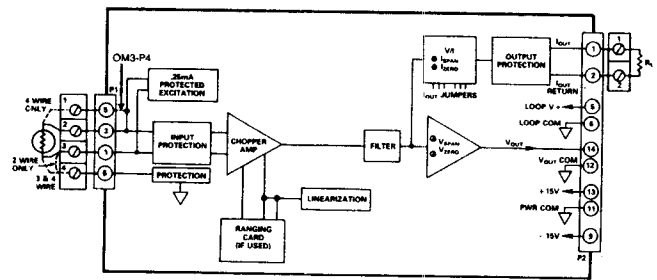

Figure 2.1.4.1 OM3-P3 and OM3-P4 Functional Block Diagram
Figure 2.1.4.1 shows a functional diagram for models OM3-P3 and OM3-P4. A sensor excitation current of .25mA is provided by each module. Input protection of up to 130V for the input and excitation circuitry is provided. The signal is then amplified, linearized, and filtered to give the high level voltage output. Chopper based amplification is used to assure low drift and excellent long term stability. Both the voltage and current outputs can be independently adjusted over a $\pm 5\%$ span range for zero and span with the front panel accessible potentiometers. The current output, which has 130V output protection, interfaces with user equipment through screw terminal connections.
1. Connect model OM3-P3 (OM3-P4) as shown in Figure 2.1.4.1. with $R_L = 250\Omega$. Substitute a resistance standard for the RTD.
Figure 2.1.4.2 graphically shows the RTD values needed for ranging the OM3-P3 and OM3-P4 while Figure 2.1.4.3 depicts the mounting locations of the ranging resistors.